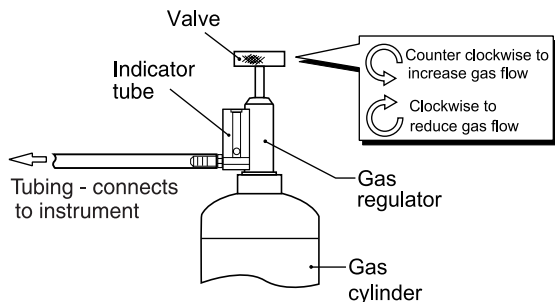

Fig. B-5 Connecting Gas
- 3) Remove the cap from calibration gas cylinder. Make sure that the regulator valve is in the fully closed position (Off) then connect the gas regulator to the gas cylinder (push down gently and tighten clockwise, hand tight). See Figure B-5 for details.